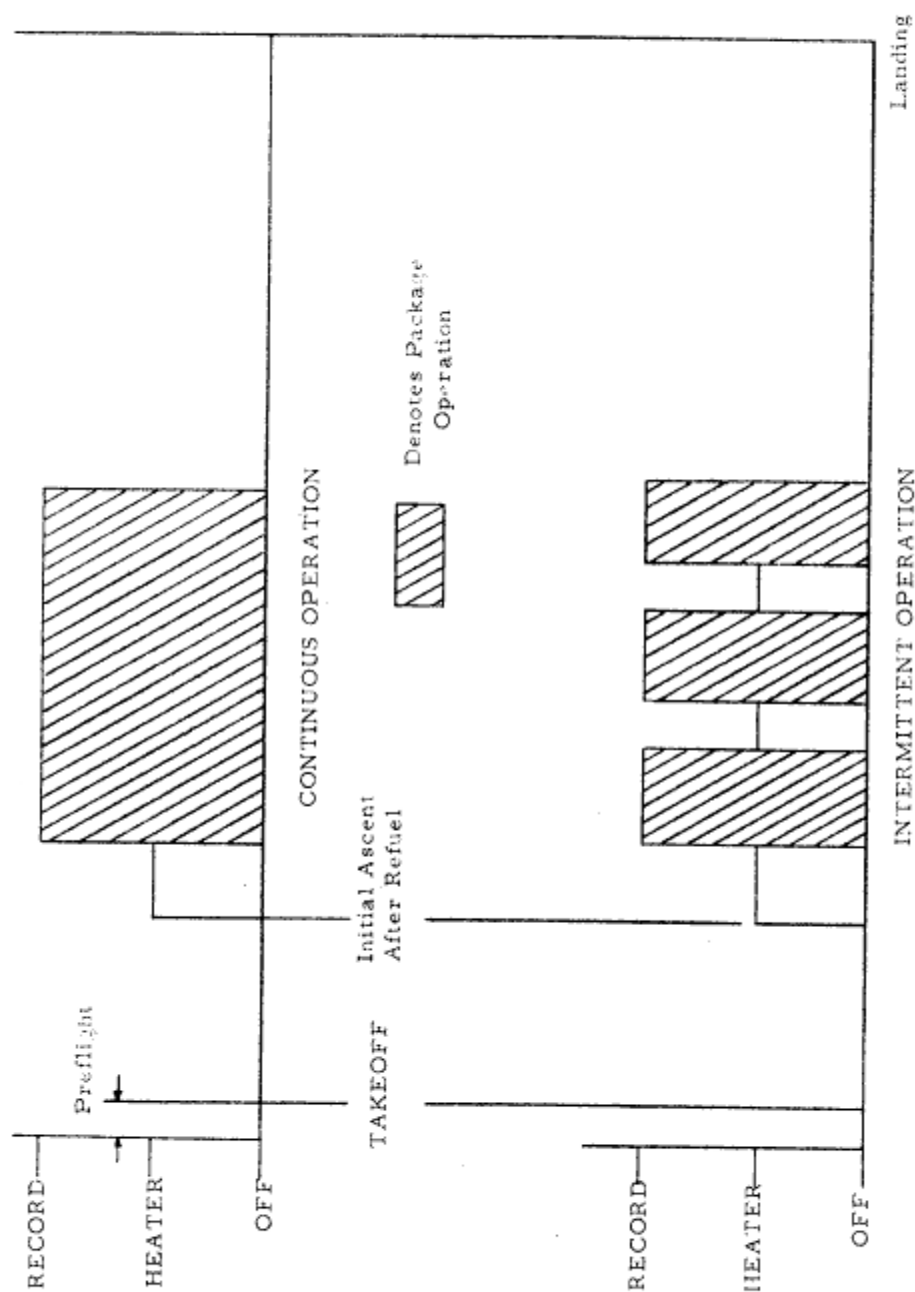

Figure 2-6. Typical Type II Mission Profiles
- 2-17. Two typical Type II mission profiles are shown in Figure 2-6.
Mission 1 shows continuous operation of the package for a segment of the entire mission. Mission 2 shows intermittent operation of the package for arbitrary portions of the mission. During initial ascent after refuel, turn HEATER switch to ON position. Specific flight instructions will determine when the RECORD switch is to be turned to the ON position as shown in Figure 2-6.